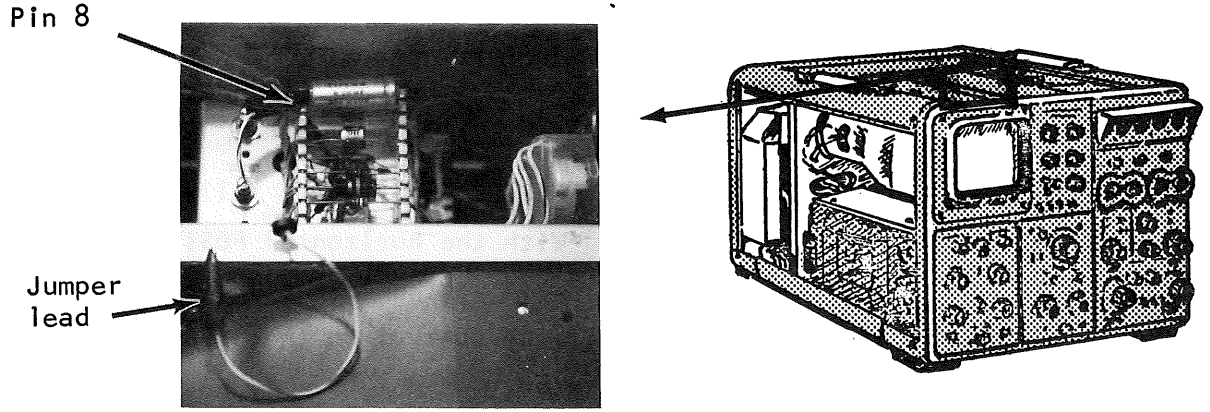

Figure 1-16
1. Connect a jumper lead from the cathode of V884A (pin 8) to ground. See Figure 1-16.